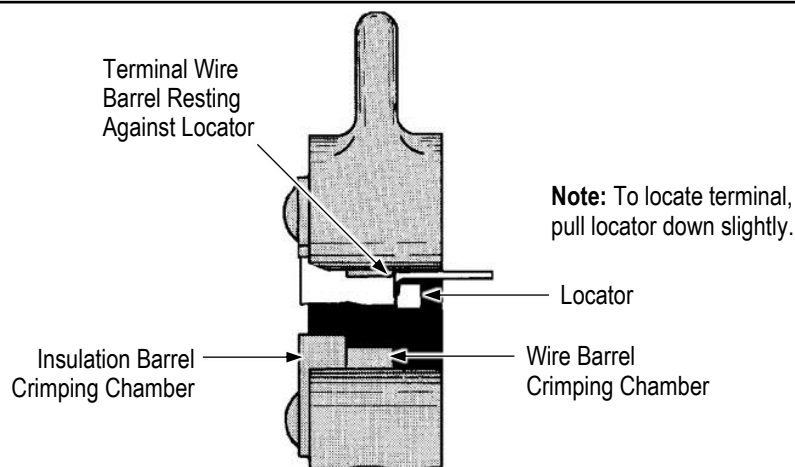

Figure 3
2. Place the terminal in the stationary die as shown in Figure 3, then close the tool handles until the terminal is held firmly in place.
6. Position the terminal in the dies as shown in Figure 3, then close the tool handles until the dies bottom.